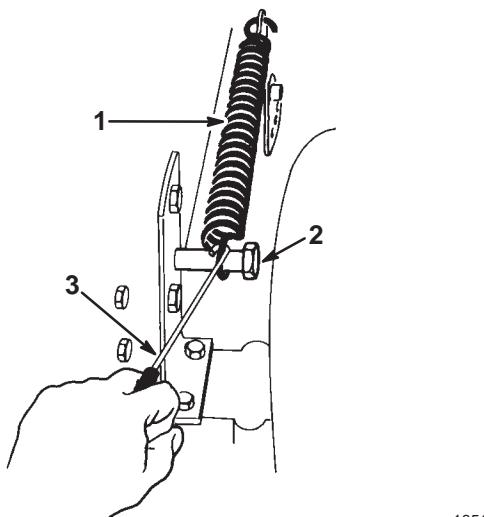

Figure 38
4. Remove the height-of-cut lift assist spring from the retaining bolt (Fig. 38), using the spring tool provided with the machine. The spring is between the frame and the right rear wheel.
13. Move the height-of-cut lever into the "D" notch. Hook lift assist spring onto the retaining bolt for storage (Fig. 38).
15. Hook the height-of-cut lift assist spring onto the retaining bolt (Fig. 38), using the spring tool provided with the machine.